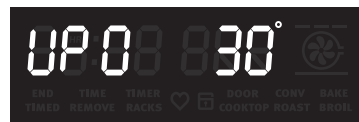

Fig. 58 Oven temperature set 30° higher than default
2. Enter **3 0** using numeric keypad **30** (Figure 58).
2. Enter **3 0** using the numeric keypad **30** (Figure 58).